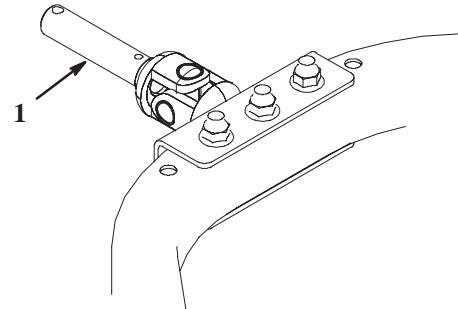

Figure 4
1. Apply a light coating of oil to the unpainted portion of the sulky pivot shaft (Fig. 4).